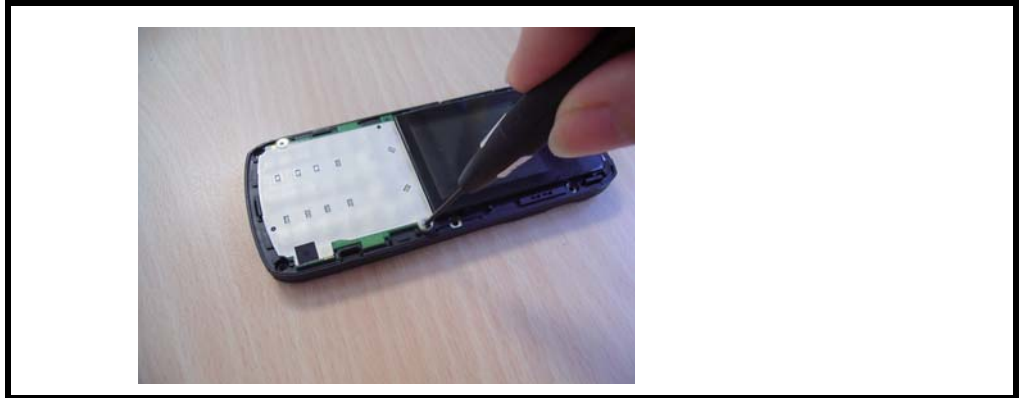

Figure 11. Replacing Keypad
4. To replace, put keypad PCB into the side band and fasten the 2 PH10 screws with screwdriver as shown in Figure 11.